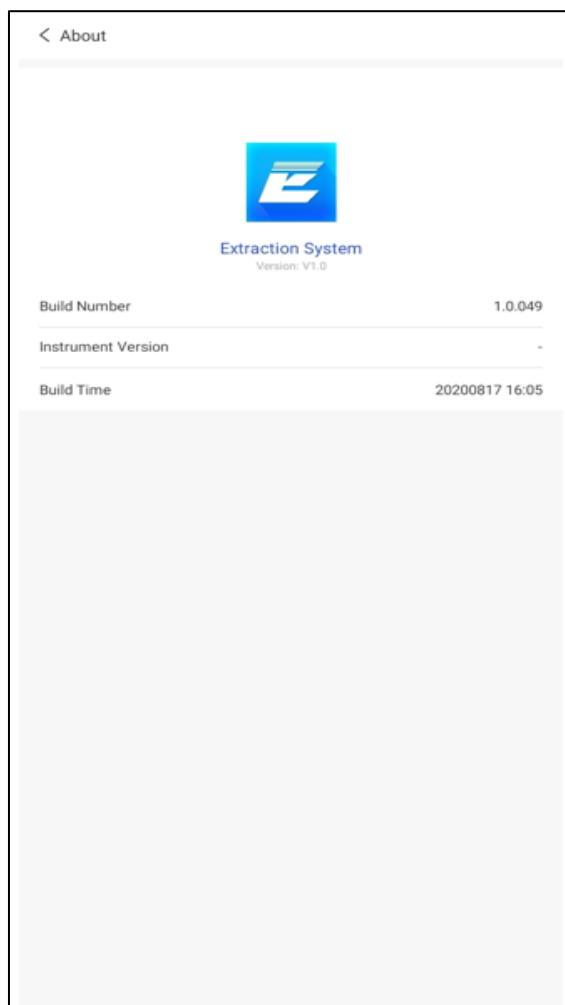

Figure 5-18. Setting Interface – About
- 6. About:** intended to view the version information of the current application software, as shown in figure 5-18.